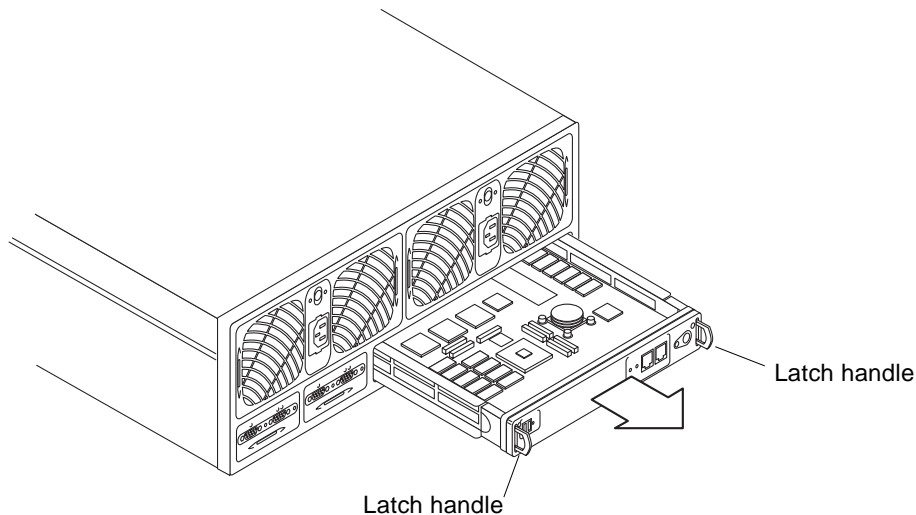

FIGURE 14-8 Removing the Controller Card
5. Unlock the controller card by pushing in on the latch handles (FIGURE 14-8).